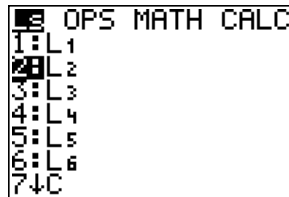

Figure 20
- Select L2 to place in **FDEG** and L3 to place in **CDEG** (See Figures 20 to 23).